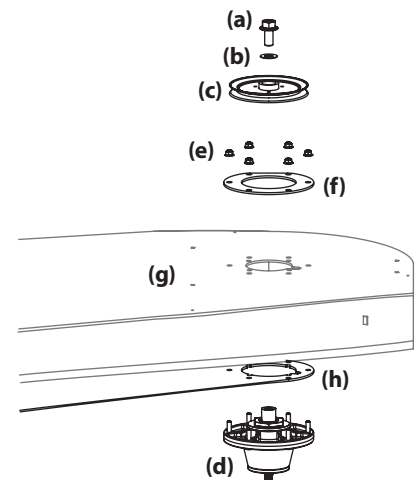

Figure 60
6. Remove the hex flange bolts (a) and flat washers (b) securing the left and right spindle pulleys (c) to the spindle assembly (d). See Figure 60.
7. Remove the six (6) flange lock nuts (e) securing the left and right spindle assemblies (d) and the support plates (f) to the deck shell (g). See Figure 60 on page 30.
10. Reverse the process to install the spindle assembly. When installing the new spindle assembly be sure to install the hardware exactly as shown in Figure 60. Torque the hex flange bolts to 250 ft-lbs and the flange lock nuts to 21-32 ft-lbs.